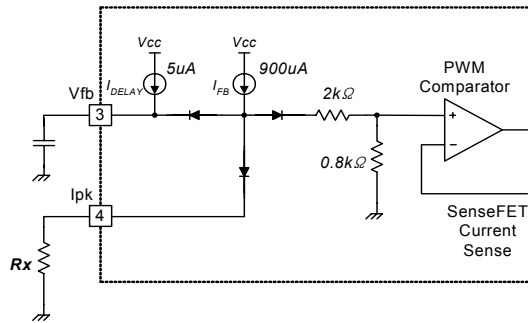

Figure 12. Peak Current Limit Adjustment
8. Adjusting Peak Current Limit : As shown in Figure 12, a combined $2.8k\Omega$ internal resistance is connected to the non-inverting lead on the PWM comparator. A external resistance of Rx on the current limit pin forms a parallel resistance with the $2.8k\Omega$ when the internal diodes are biased by the main current source of $900\mu A$.